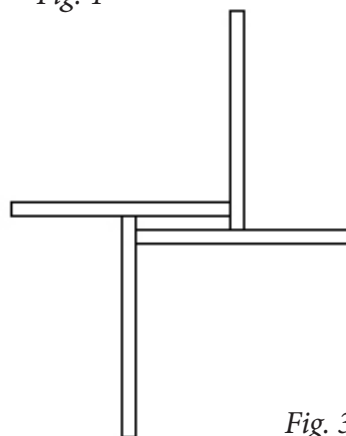

Fig. 3
- 4 – 1 x 4 x 5" base stand pieces (Fig. 3)
- If you wish to display your tree as a free-standing decoration (as opposed to mounting it or staking it, use the (4) 1 x 4 x 5" pieces to build the base stand. Use wood glue to adhere them to the base of the tree trunk in the configuration illustrated in Fig. 3